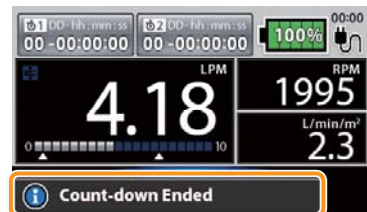

Figure 3-46
5. Tap “Count-down Ended”. (Figure 3-46)